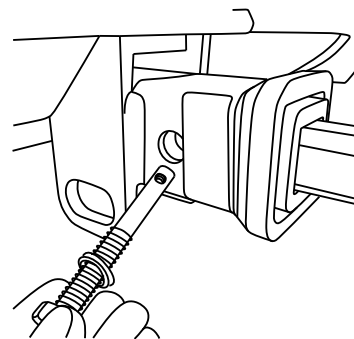

Fig. 12
2. Insert 3 1/2" half-thread Anti-Rattle Hitch Bolt (19mm) with lock washer into receiver and tongue and tighten securely (**Fig. 12**).